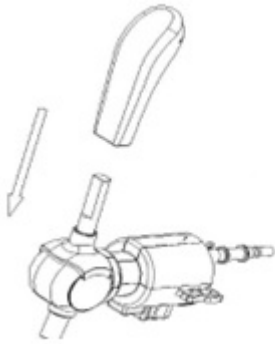

Fig. 1
6. Place the grip on the tap. Make sure that the two parts are correctly connected (see Fig. 1).